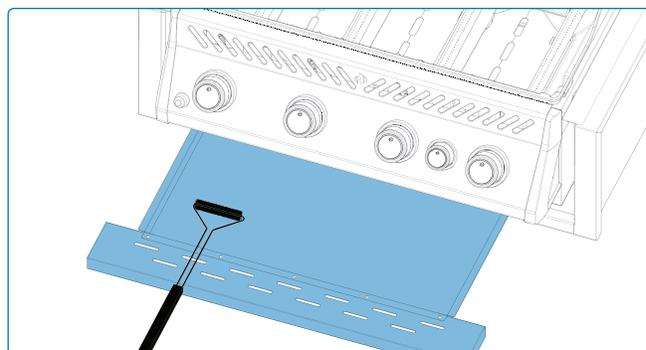

Fig. 12
1. Slide the drip pan from the grill to access the disposable grease tray or to clean the drip pan (**Fig. 12**).